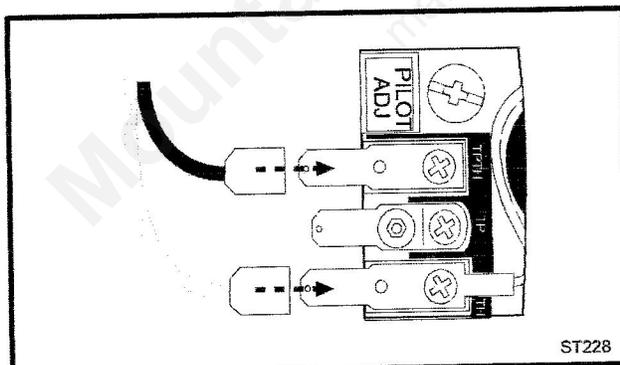

Fig. 57 Attach switch wires to valve.
3. Attach wires to valve terminals. (Fig. 57)
2. Connect the thermostat wires to the valve. (Fig. 57)